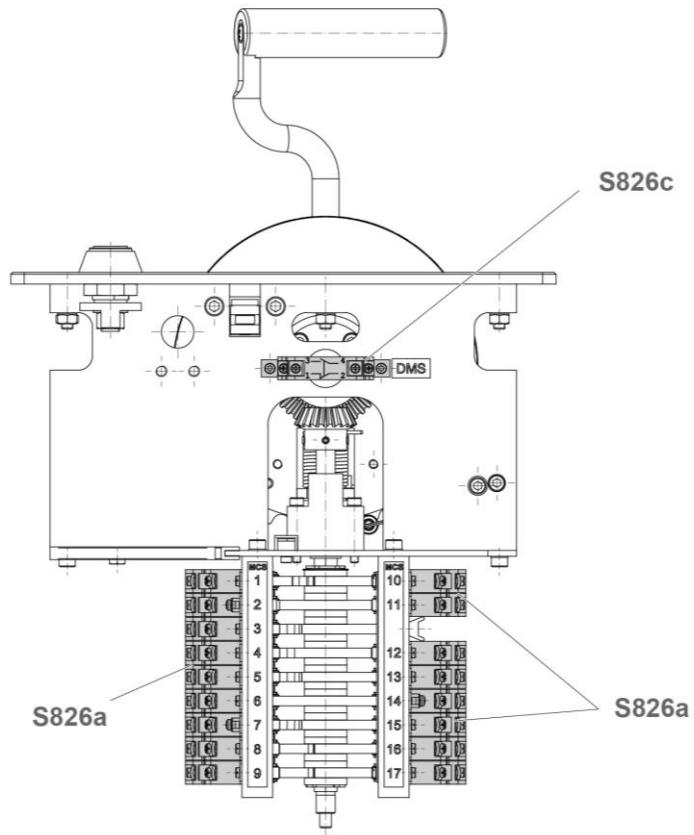

Figure 5-1: Replace Snap Action Switches Type S826a and S826c
1. Remove cables by releasing the contact screws on the snap-action switches. See Figure 5-1 below.